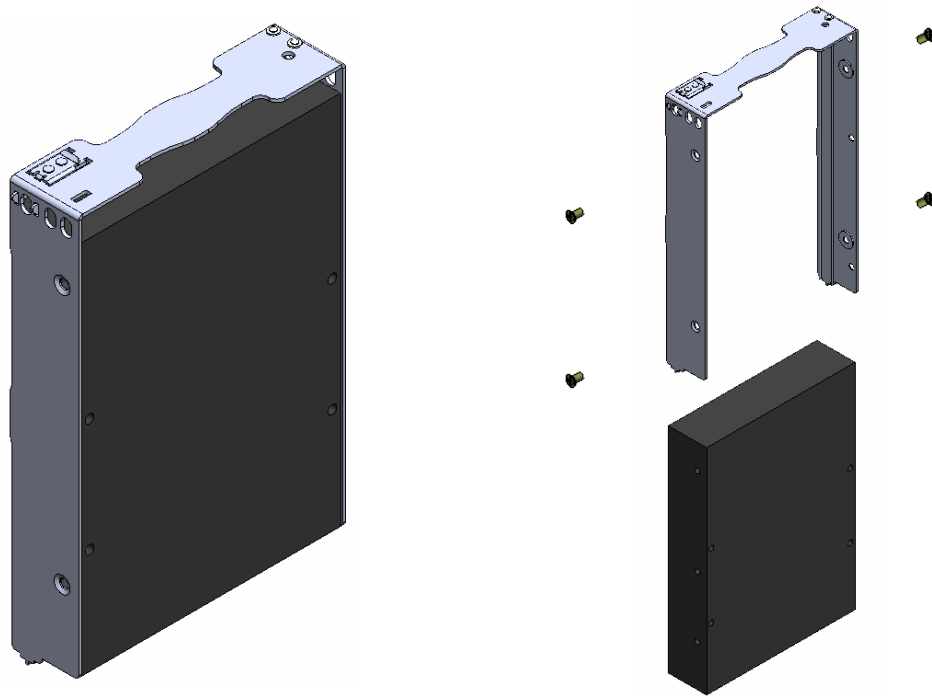

Figure 4-4 Hard Drive Carrier
As shown in Figure 4-4, the drives are mounted in driver carriers to simplify their installation and removal from the drive bricks or boot drive bays in the chassis.
4. Secure the hard drive using the four screws (see Figure 4-4).